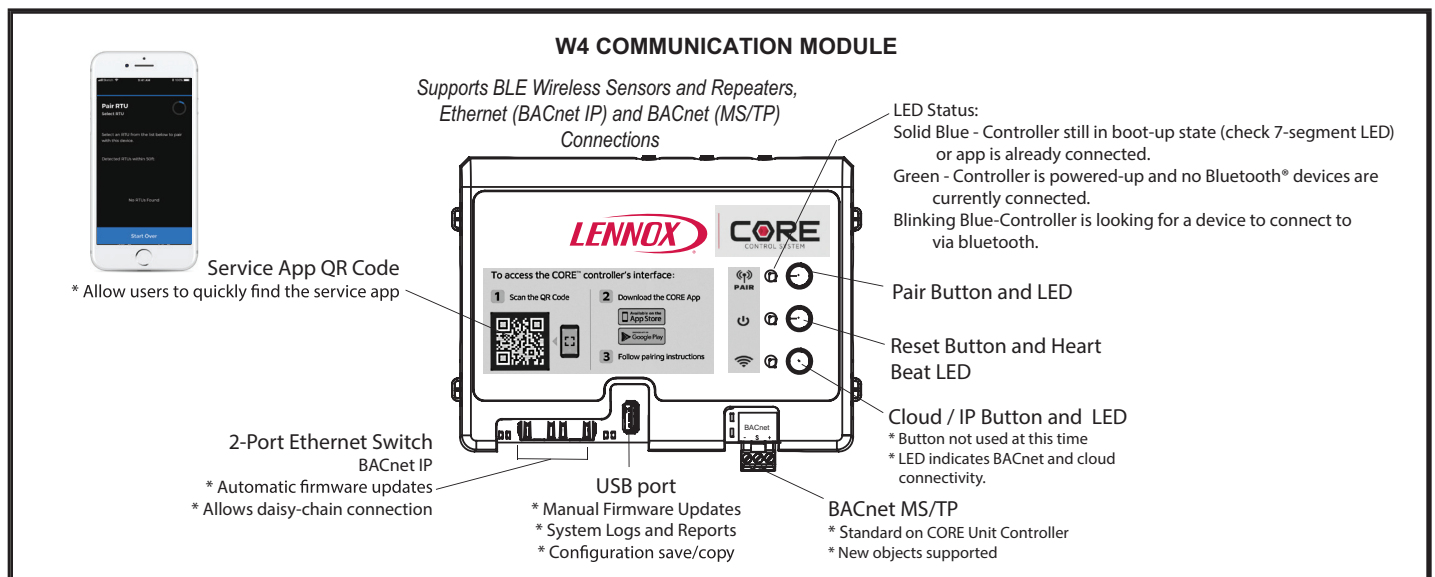

FIGURE 23
- 2 - Press and hold the pair button for five seconds. See FIGURE 23.